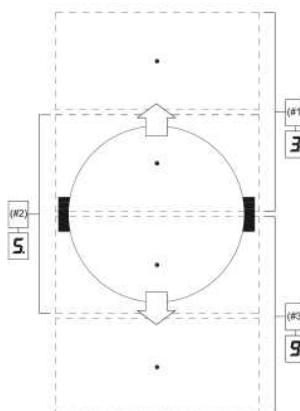

Fig. 31
This function allows to divide the flexible zone into three areas (see fig. 31) and activates a predefined power configuration. It will allow slide the vessel from one area to another, to cook with the power assigned to each zone.
- for zone #3 the power level is 9 (see fig. 31 and 30).